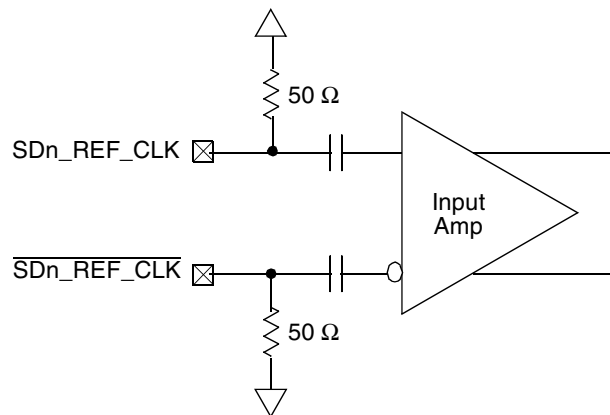

Figure 58. Receiver of SerDes Reference Clocks
Figure 58 shows a receiver reference diagram of the SerDes reference clocks.
- The  $SDn\_REF\_CLK$  and  $\overline{SDn\_REF\_CLK}$  are internally AC-coupled differential inputs as shown in Figure 58. Each differential clock input ( $SDn\_REF\_CLK$  or  $\overline{SDn\_REF\_CLK}$ ) has a 50- $\Omega$  termination to SGND (xc0revss) followed by on-chip AC-coupling.